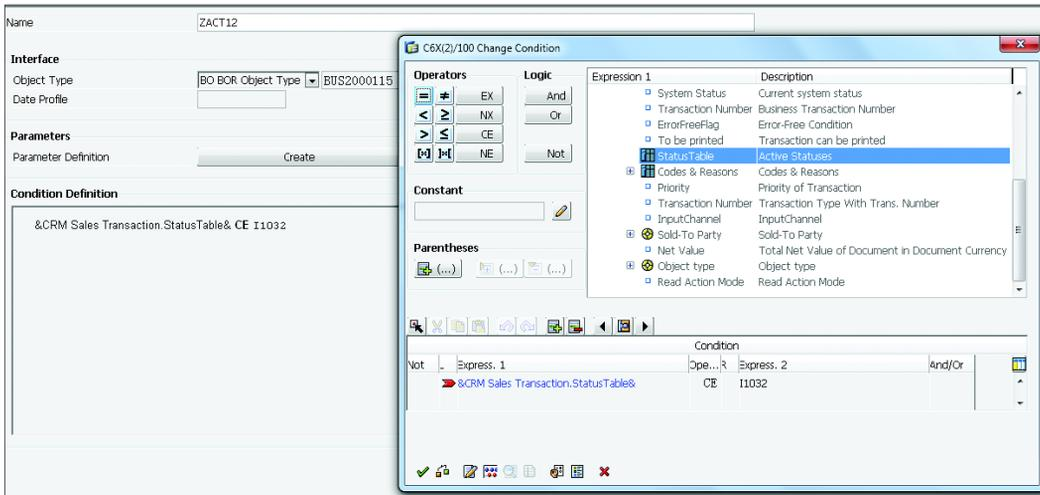

Figure 6.11 Schedule and Start Condition
5. Next, create the schedule conditions and start conditions to trigger the sales order rejection action (see Figure 6.11). Navigate to **SPRO • CUSTOMER RELATIONSHIP MANAGEMENT • BASIC FUNCTIONS • ACTIONS • ACTIONS IN TRANSACTION • CHANGE ACTIONS AND CONDITIONS • DEFINE CONDITIONS**. The condition is configured for “If the System Status is Rejected I1032,” which triggers the action.